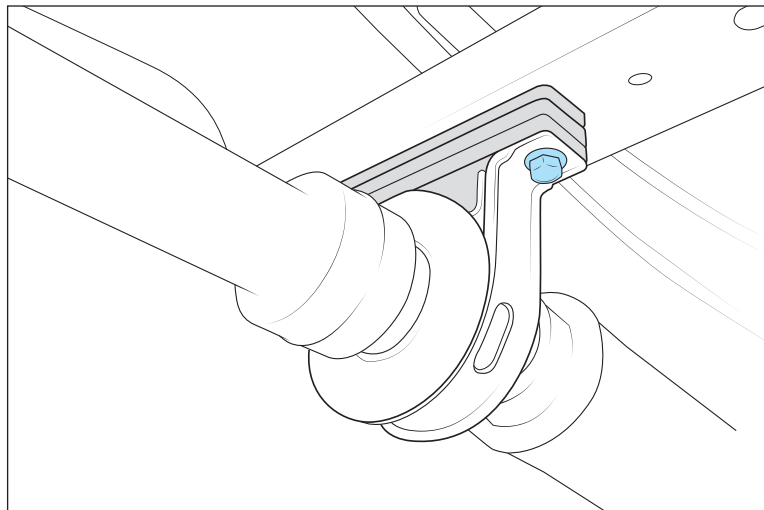

Figure 15
19. Remove driveshaft pillow block from frame. Install three (3) provided spacers with supplied M10 x 50mm bolts. This will help improve driveline angle and prevent vibration. Torque bolts to 50 lb-ft (fig. 15).